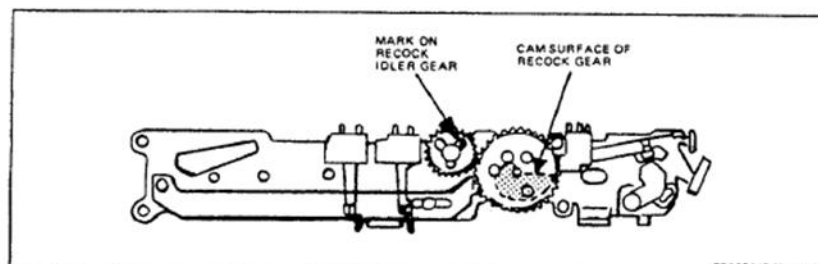

FIGURE 4-103 POSITIONING RECOCK IDLER GEAR AND RECOCK GEAR
1. Using a pencil, mark one of the three points of the "Y" mold on the recock idler gear (see Figure 4-103).
2. Install the recock idler gear on the outer plate so the pencil mark is at the two o'clock position (Figure 4-103). (Be sure the gear moves freely after the rivet is installed. Then, set the pencil mark at two o'clock again.)
3. Install the recock gear so the flat surface of the cam under the gear is parallel with the long edge of the outer plate (Figure 4-103). Note that the cam is on the bottom when the cam is installed.